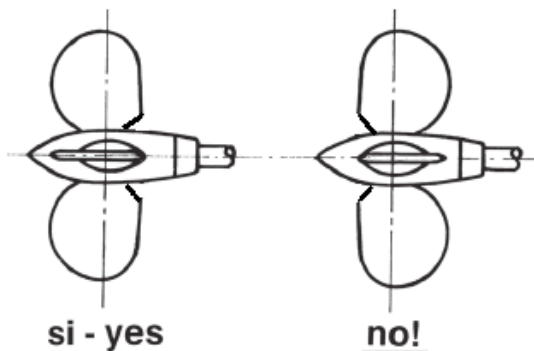

Fig. 2
- d. Orient the blades in the feathered position (i.e. perfectly in line with the axis of the propeller body), making sure that their profile is as shown in fig. 2.
- In the feathered position the blades must be perfectly aligned and oriented as in fig. 2.